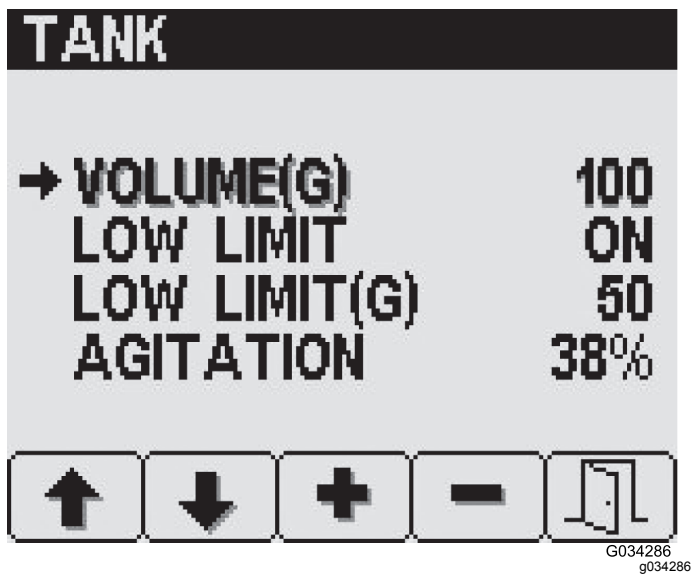

Figure 20
2. Press button 2 until you reach the item that you would like to change (Figure 20).
3. Use buttons 3 and 4 to set the desired value (Figure 20).